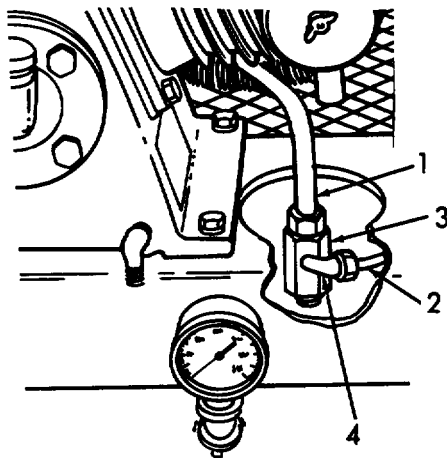

Figure 3-35. Check Valve, Removal.
- a. *Removal.* (Refer to Figure 3-35).